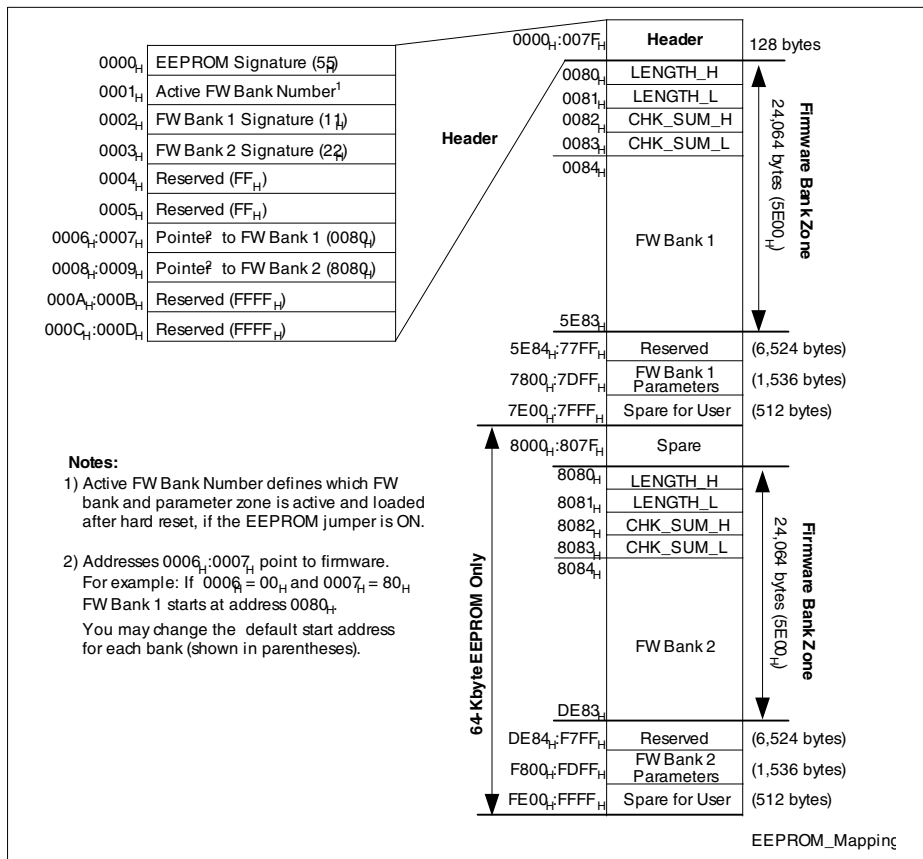

Figure 13 EEPROM Data Structure
The EEPROM includes the following zones (as shown in Figure 13) are described below:
- Pointer to FW Bank 1 (0006_H:0007_H) or 2 (0008_H:0009_H) - The 2-byte pointer for each bank points to the address where the corresponding firmware bank begins. **Figure 13** shows the default address for the start of each bank.